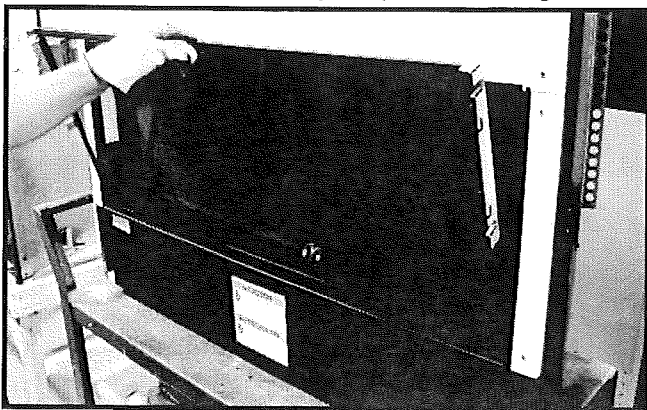

Figure 9. Install Mesh Assembly
3. Install mesh assembly into door opening such that it rests on the bottom two glass plates. See Figure 9.